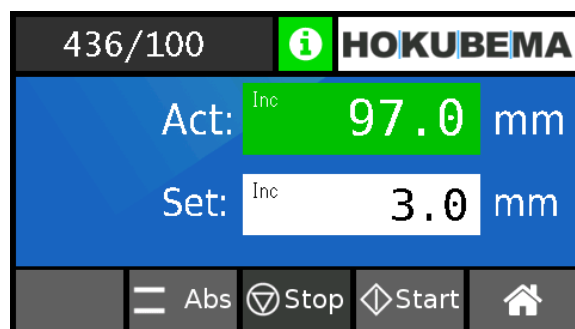

Figure 31: Setpoint reached
- The "**Act:**" field changes to green as soon as the target position "**Set:**" is reached (see ⇒ Figure 31).